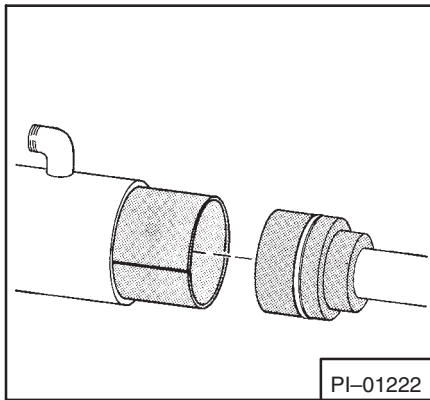

Fig. 76 Reassembling Cylinder
5. Use the special cylinder repair tool (Fig. 76) when installing the piston into the cylinder. The tool will prevent the threads in the end of the cylinder case from damaging the piston seals.